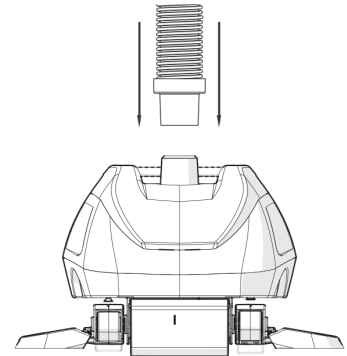

Fig. 1
**Step 1a: Connect the cleaner (Fig. 1)**